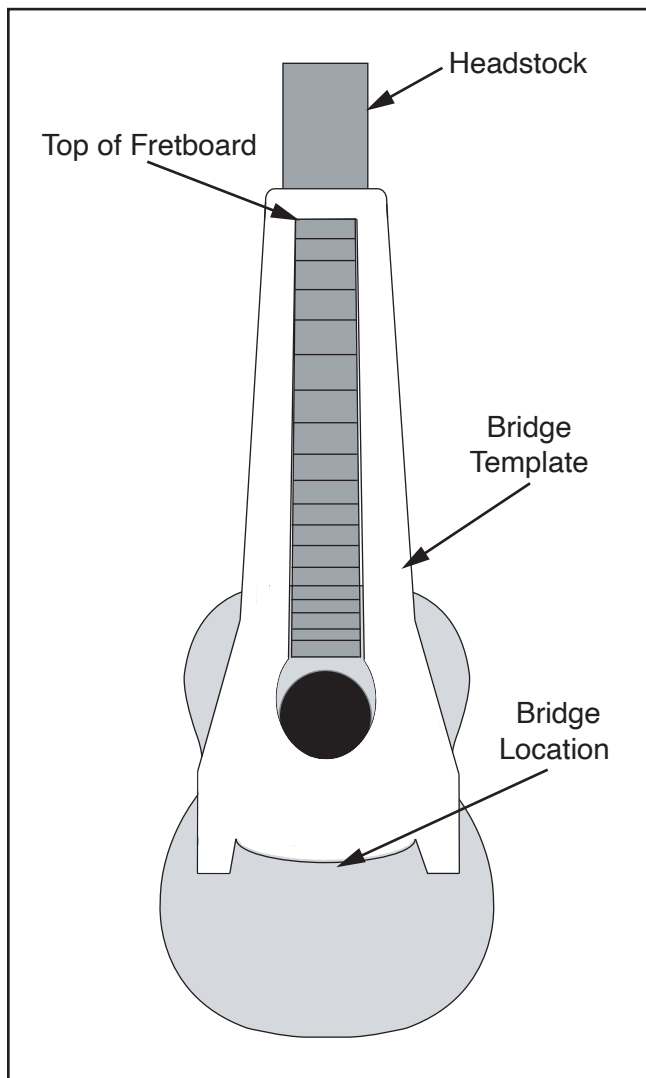

Figure 12. Using template for bridge placement.
1. Place template at top of fretboard (see **Figure 12** on **Page 12**), making sure fretboard and sound hole are clearly visible and properly aligned.
3. Place template (see **Figure 12** on **Page 12**) back in position and use a pencil to lightly trace top and side lines for bridge.
4. Remove template (see **Figure 12** on **Page 12**) and place bridge according to marks made on tape.